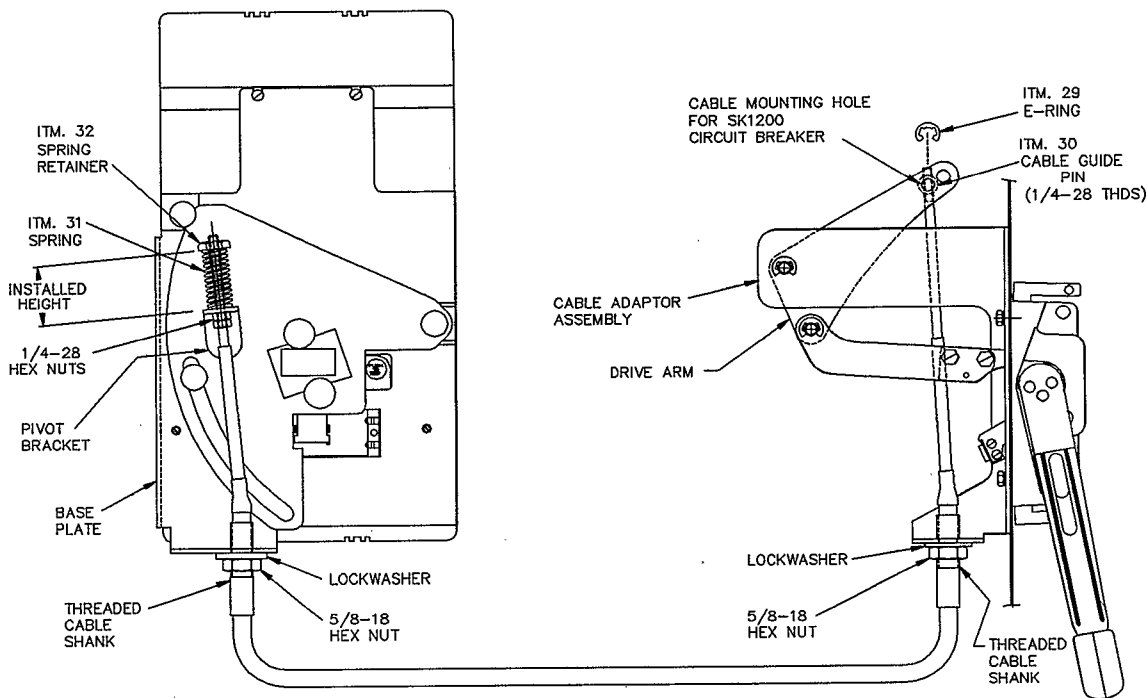

Figure 7.
1. Thread $5/8$ -18 hex nut on the end of the cable with $1/4$ -28 x 1" long thread length. Install onto threaded cable shank beyond groove at mid-point of threaded shank. Install $5/8$ " lockwasher to hex nut. Screw cable guide pin, item 30, onto same end of cable ($1/4$ -28 thds.) all the way. Do not tighten.
2. Place operating handle in off position. Position cable behind handle drive arm linkages. Insert groove of cable (midpoint of cable shank threads) into slot at bottom of cable adaptor assembly. Tighten $5/8$ " hex nut against cable adaptor assembly until snug. Insert cable guide pin, item 30, into the proper mounting hole in drive arm, as shown in Fig. 7. Snap E-ring, item 29, into groove of guide pin, item 30, using pliers.
3. Next install cable to breaker operating mechanism by installing $5/8$ -18 hex nut over cable end with $1/4$ -28 x 4" long thread length. Thread onto cable shank beyond groove at mid-point of threaded shank. Install $5/8$ " lockwasher to hex nut. Thread (2) $1/4$ -28 hex nuts onto threaded end of cable, approximately $3\ 3/4$ ". **NOTE:** rotate pivot bracket into position as shown in Fig. 7, and insert end of cable thru pivot bracket. Insert groove of cable into slot on base plate. Tighten $5/8$ -18 hex nut against base plate flange until snug. With breaker in OFF position move $1/4$ -28 hex nut up on cable shaft against pivot bracket. (Note position of pivot bracket.)
4. **CAUTION**, be sure that power to the circuit breaker has been turned off. Move operating handle and circuit breaker to the ON position. Place spring, item 31, over cable end. Thread spring retainer, item 32, onto end of cable and tighten to the installed height of $2\ 7/16$ ". **DO NOT OVERTIGHTEN RETAINER.**